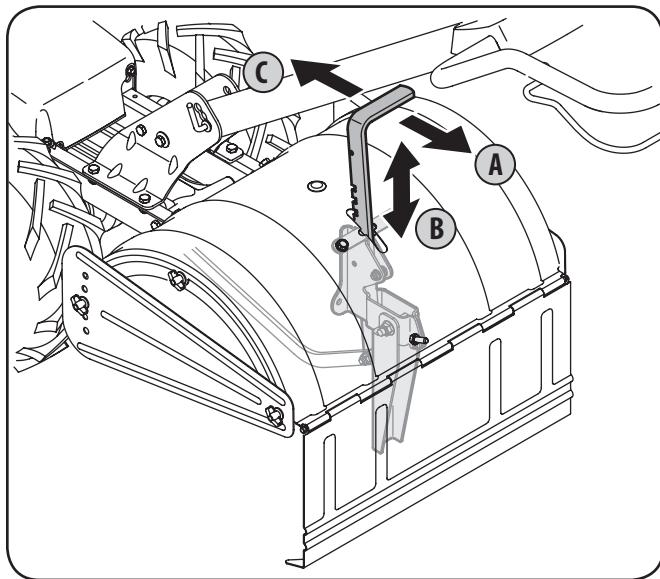

Figure 5-1
Pull back on the depth adjustment bracket (A) and push down (B) until the bracket reaches the highest notch. See Figure 5-1. Then release the bracket (C).
To adjust the depth stake, pull back on the depth adjustment bracket (A) and push up or down (B) until the bracket reaches the desired position, see Figure 5-1, then release the bracket (C).